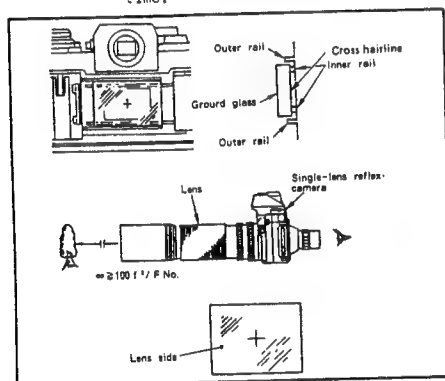

Fig. II-60
- (1) Open the aperture of single-lens reflex camera fully. Then, open a rear lid.
- (2) Secure the ground glass on the inside rail face by pressing it.
- (3) Shoot a scene at infinity. Then, enlarge the image on the ground glass surface with a magnifier to check the focusing state.
- * Note: For the distance for infinity, refer to the Fig. II-60.
- (4) After the above checking, remove the ground glass once, and mark the cross-hairline on the ground glass surface. Then, attach it to the camera again.